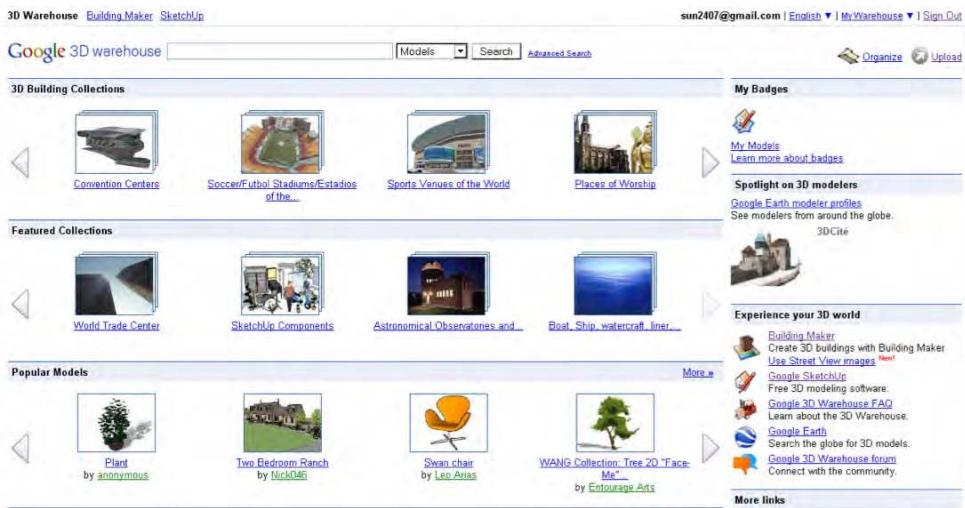

Figure 9–9. 3D Warehouse home page
5. This will direct you to the Upload to 3D Warehouse page (Figure 9–10). Make sure to fill in the form as specified. The file has to be in .kmz format, and the thumbnail has to be less than 2MB and less than 1200 by 1200 pixels. To export the SketchUp model as a .kmz file, select the File menu in SketchUp and then select Export ▶ 3D Model. Make sure to specify the file type as .kmz.